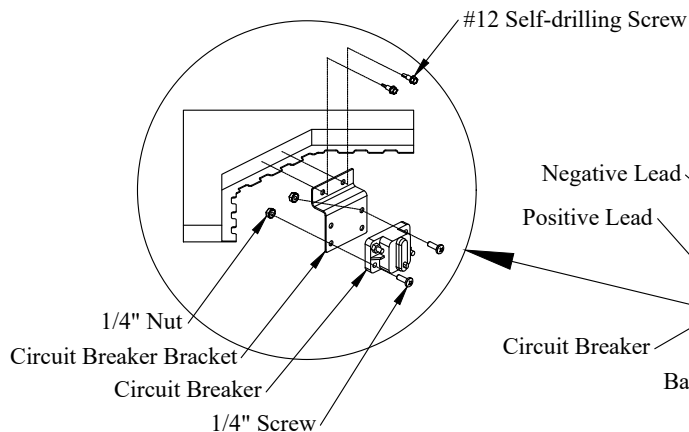

Figure 12: Circuit breaker bracket.
1. **Install** the circuit breaker on the circuit breaker bracket with 1/4" screws and nuts (Figure 12).
2. **Install** the circuit breaker bracket on the driver side fender, inside the engine compartment away from moving parts (Figure 12).